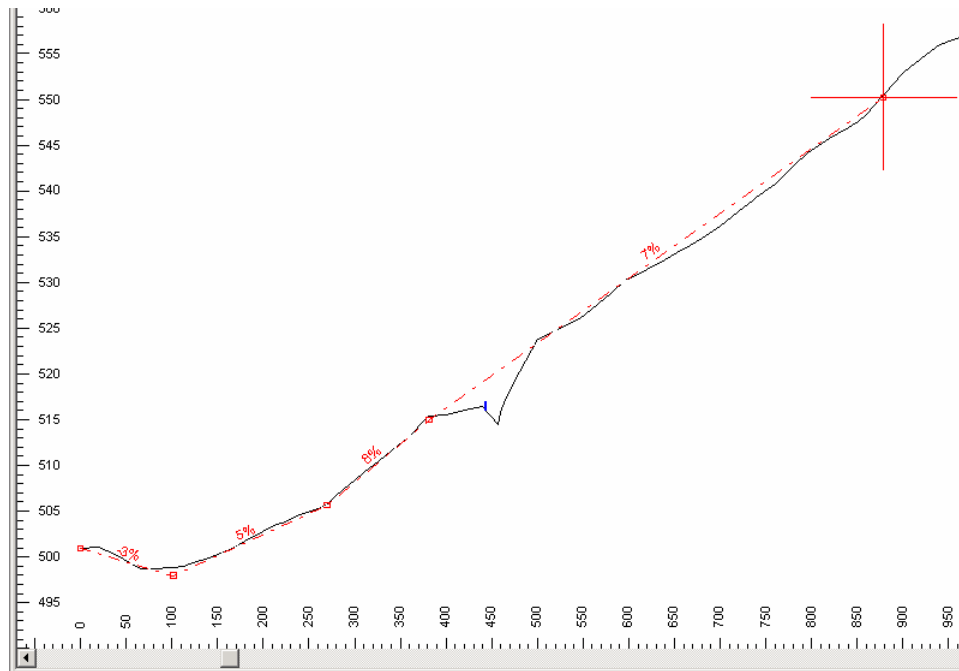

Figure 4.23: Plan View Showing New Tangents
5. Use the mouse (*Add/Edit IP Tool* cursor ) to create the tangents as shown in the Figure 4.23.